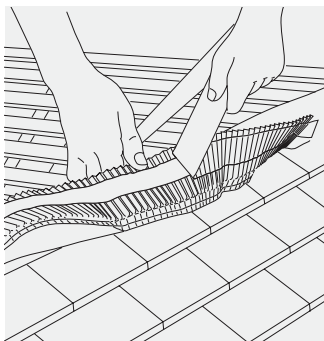

Fig. 79
- 5 Remove release paper covering mastic strip on underside of corrugations on both sides of roll. Ensure area of top course tiles to which RidgeFast roll is to be adhered is dry and clean before proceeding (Fig. 79).